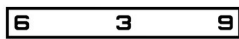
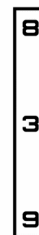
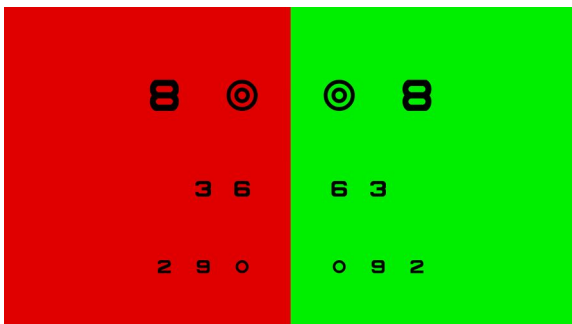

figure 1
figure 2
figure 3
- When you press Red/Green Chart (figure 3) button twice on the remote control, the LCD will display as shown in figure 1.
- Figure 1 is a chart showing the characters in a horizontal arrangement.
- And then if you press Red/Green Chart (figure 3) button on the remote control once more, the LCD will display as shown in figure 2.
- Figure 2 is a chart showing the characters in a vertical arrangement.
- If you press Red/Green Chart (figure 3) button on the remote control once more, the LCD displays as shown in figure 3 and returns to the initial screen.